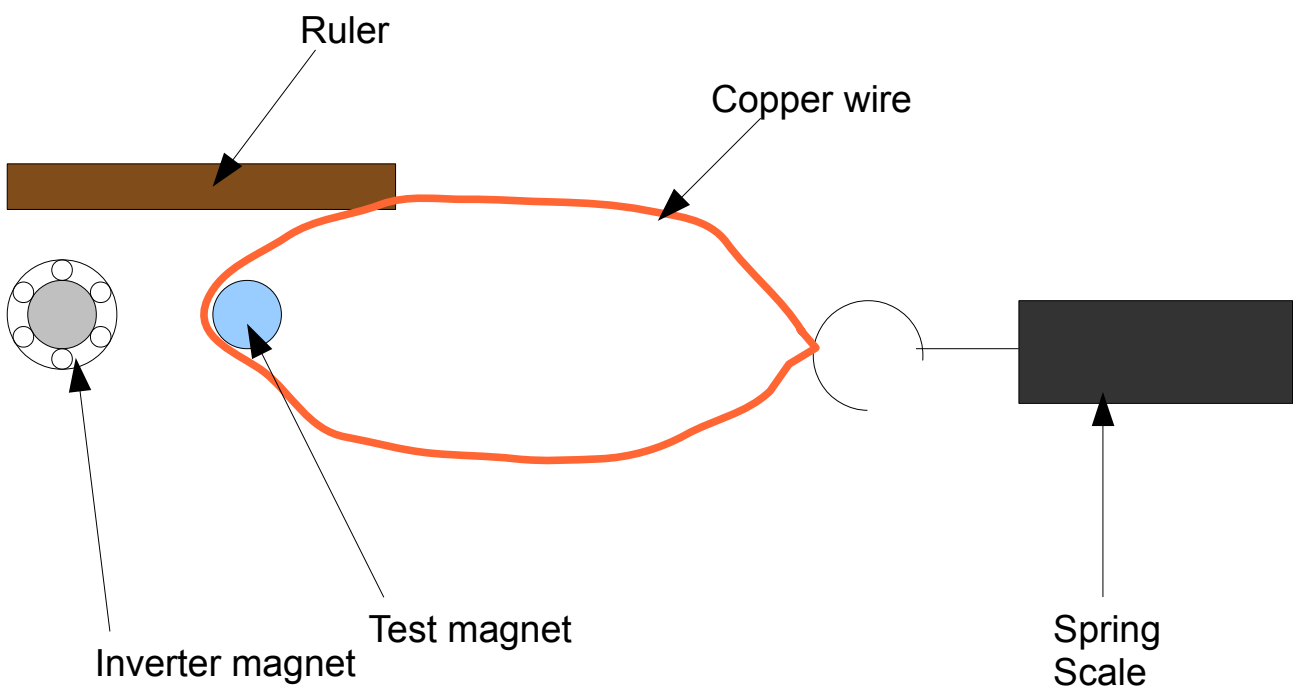

Figure 5: The initial setup for measuring the force exerted by an inverter magnet with the peripheral magnets removed.
Step 7: Place the test magnet in the same position it was in when you took the last reading during step 5 (i.e. the reading taken when the separation between the inverter magnet and the test magnet was smallest). Loop the copper wire around the test magnet to prevent it from drifting closer to the inverter magnet as shown in figure 5.